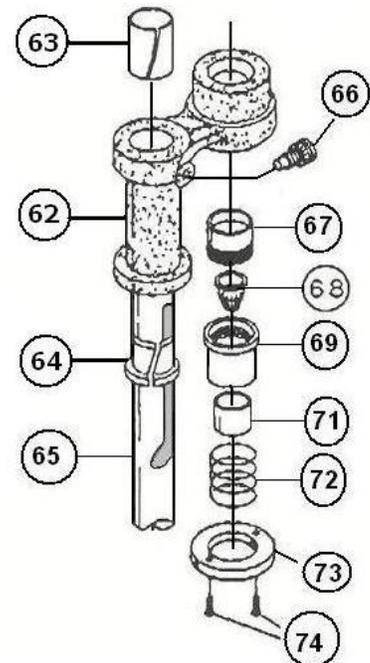

Figure 1
7. Change internal wad cup assembly. Loosen the Wad Carrier cam bolt (Fig 1 #66), but do not remove. Keep loosening the cam screw until the entire Wad Carrier can be swung out (counterclockwise) to the left.
8. Remove the two flathead cap screws (Fig 1 #74) from the bottom washer of the Wad Carrier assembly. All internal Wad Carrier parts can be pulled straight (down) out of the bottom of the assembly. Always inspect the large plastic washer for cracks and wear.
9. Replace the assembly shown in Figure 1 at right. Do not over tighten the two flathead screws (Fig 1 #74), as this may crack the washer.
10. Swing the Wad Carrier back into position and tighten the Wad Carrier Cam Bolt (Fig 1 #66). Hand tighten to verify that the cam bolt is positioning itself correctly and not attempting to punch a hole in the plastic liner located IN the Wad Carrier. Tighten the last quarter of a turn with a wrench.